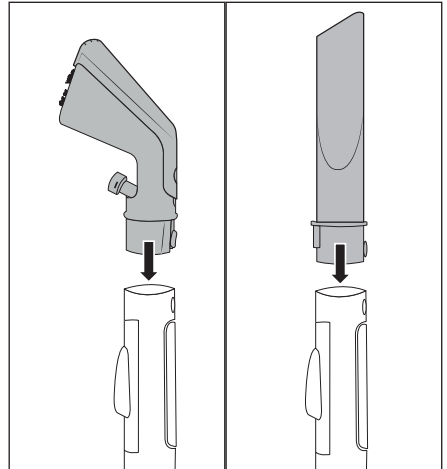

Fig. 3
- ◆ Insert the upholstery nozzle **22** or crevice nozzle **23** into the spray/suction hose **19** until the locking button **25/32** engages (see Fig. 3).